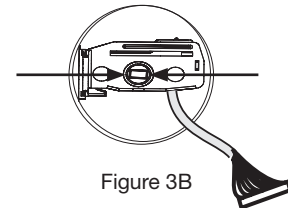

Figure 3B
Image (Fig. 3B) shows proper orientation when installing the bolt.
**Ensure that the tailpiece is oriented correctly (see arrows Fig. 3B).**